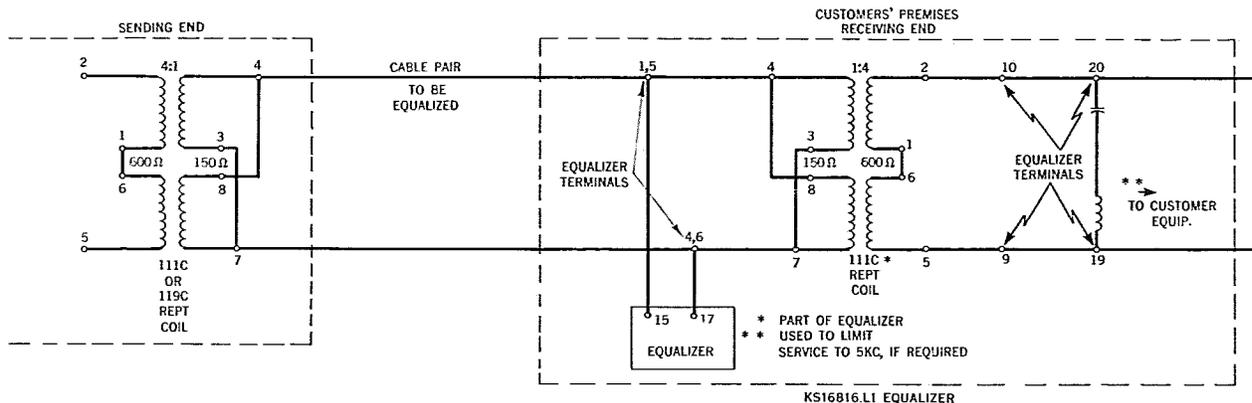

Fig. 4 — Simplified Application Schematic for 5 KC or 8 KC Program Circuits
3.02 In most situations the repeating coil will be strapped for a 4:1 impedance ratio as shown in Fig. 4. This figure shows a simplified schematic of the circuit arrangement for 5 KC or 8 KC circuits.